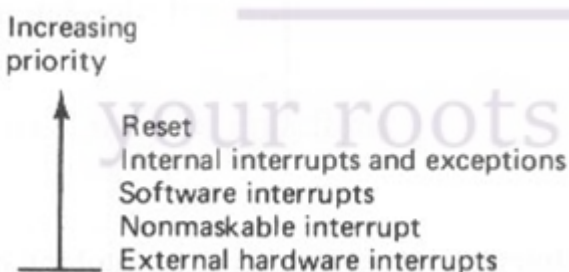

Fig 4.5. Types of interrupts and their priority
- Hardware, software, and internal interrupts are serviced on a priority basis. Priority is achieved in two ways. First, the interrupt-processing sequence implemented in the 8088/8086 tests the occurrence of the various groups based on the hierarchy shown in Fig. 4.5. Thus, we see that internal interrupts are the highest-priority group, and the external hardware interrupts are the lowest-priority group.